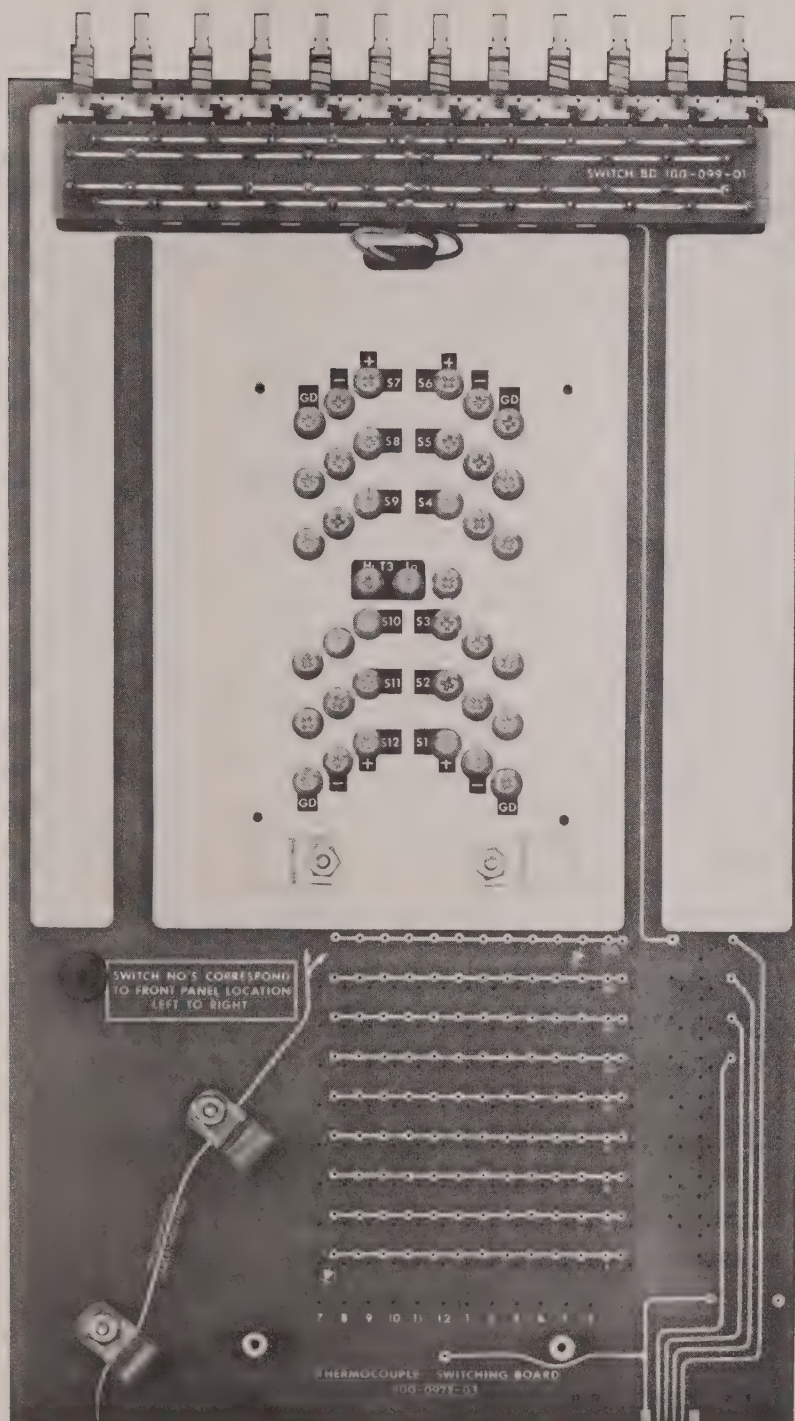

FIG. 2-4 MULTIPOINT WIRING
2. Using Figure 2-4 as a guide, route the thermocouple wires to the appropriate terminals. (HI = TC +; LO = TC -) Switch numbers etched on board correspond to front panel switches as viewed from left to right when facing the unit. (S1 = the first front panel switch, etc.)
3. Using Figure 2-4 as a guide, route the thermocouple wires to the appropriate terminals. (HI = TC +; LO = TC -) Switch numbers on the bottom board correspond to front panel switches viewed left to right. (S1 = the first pushbutton on the left.) Because the second board is mounted upside down, S12 corresponds to the first switch on the left, S11 to the second, etc.